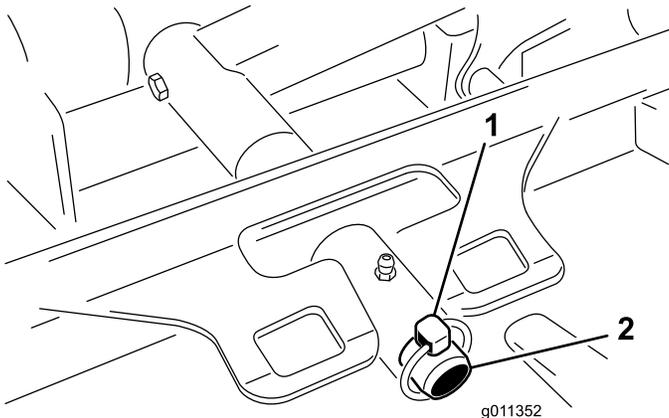

Figure 54
3. Remove the lynch pin securing the deck carrier frame to the lift arm pivot pin (Figure 54).
3. Slide deck carrier frame onto lift arm pivot pin. Secure with lynch pin (Figure 54).